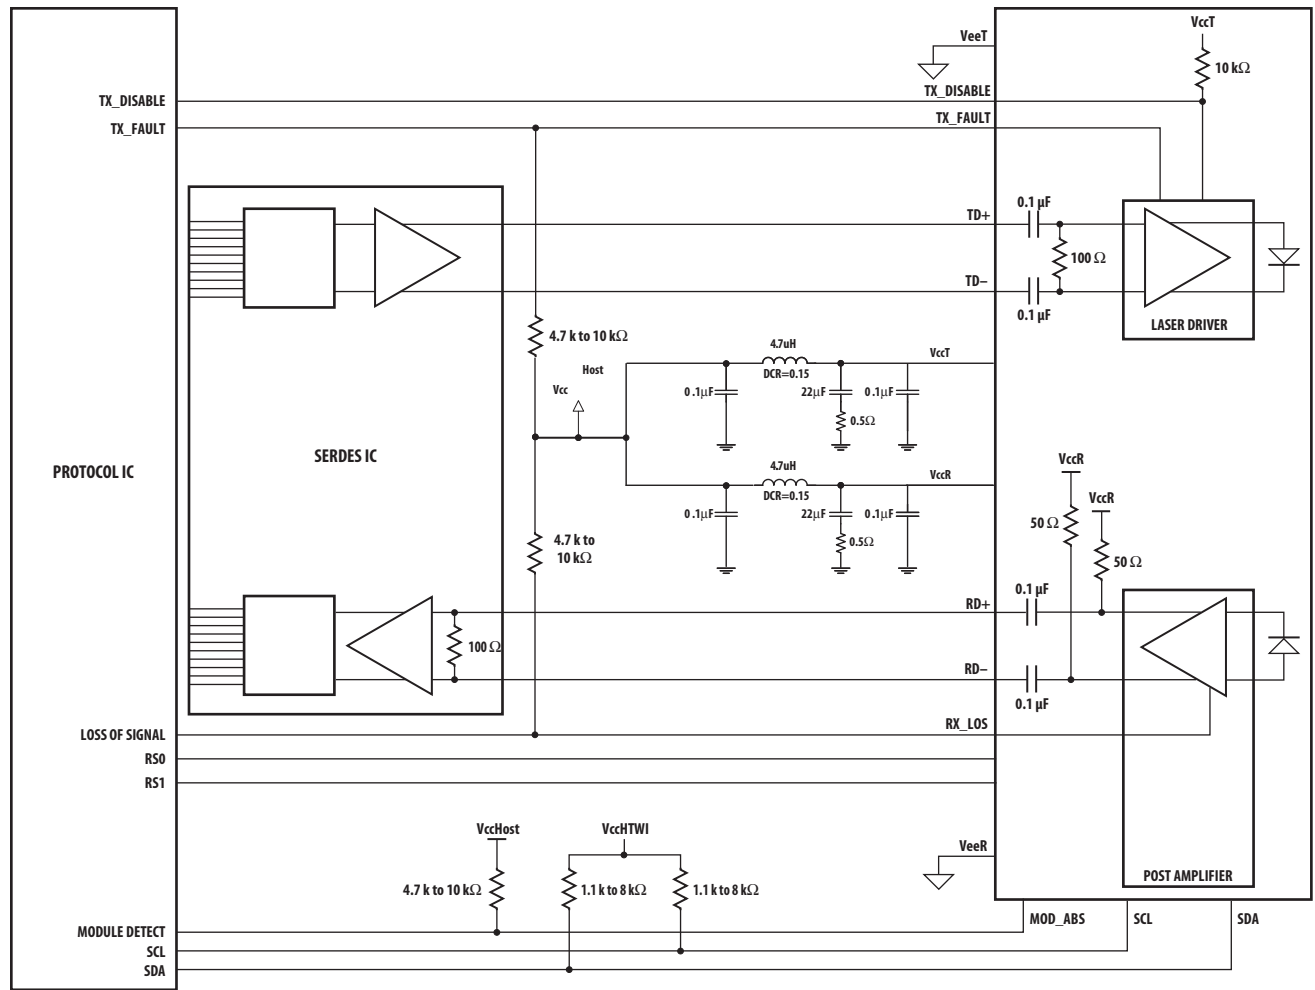

Figure 2. Typical application configuration
Figure 2 depicts the recommended interface circuit to link the AFCT-701SDZ to supporting physical layer ICs. Timing for the dedicated SFP+ control signals implemented in the transceiver are listed in Figure 5.
2. This is an open collector/drain output that on the host board requires a 4.7 k Ω to 10 k Ω pullup resistor to VccHost. See Figure 2.